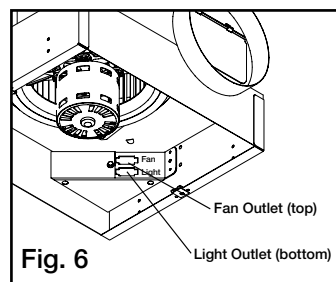
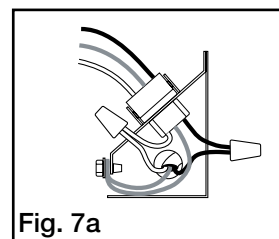
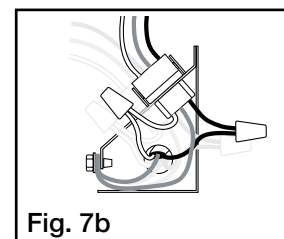

Fig. 6
Fig. 7a
Fig. 7b
- Remove wiring cover. If fan/light combination is being used, make sure the fan plug is connected to the fan receptacle and the light plug is connected to the light receptacle, shown in Fig. 6. Using proper wire connectors, wire the fan as shown in Fig. 7a. For wiring of light proceed to Fig. 7b.